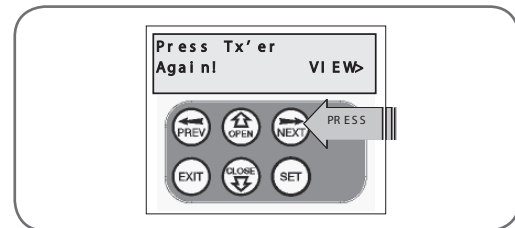

fig 36
4. Press NEXT to view transmitter parameters (Fig. 36). Used for quick navigation if the transmitter is available.